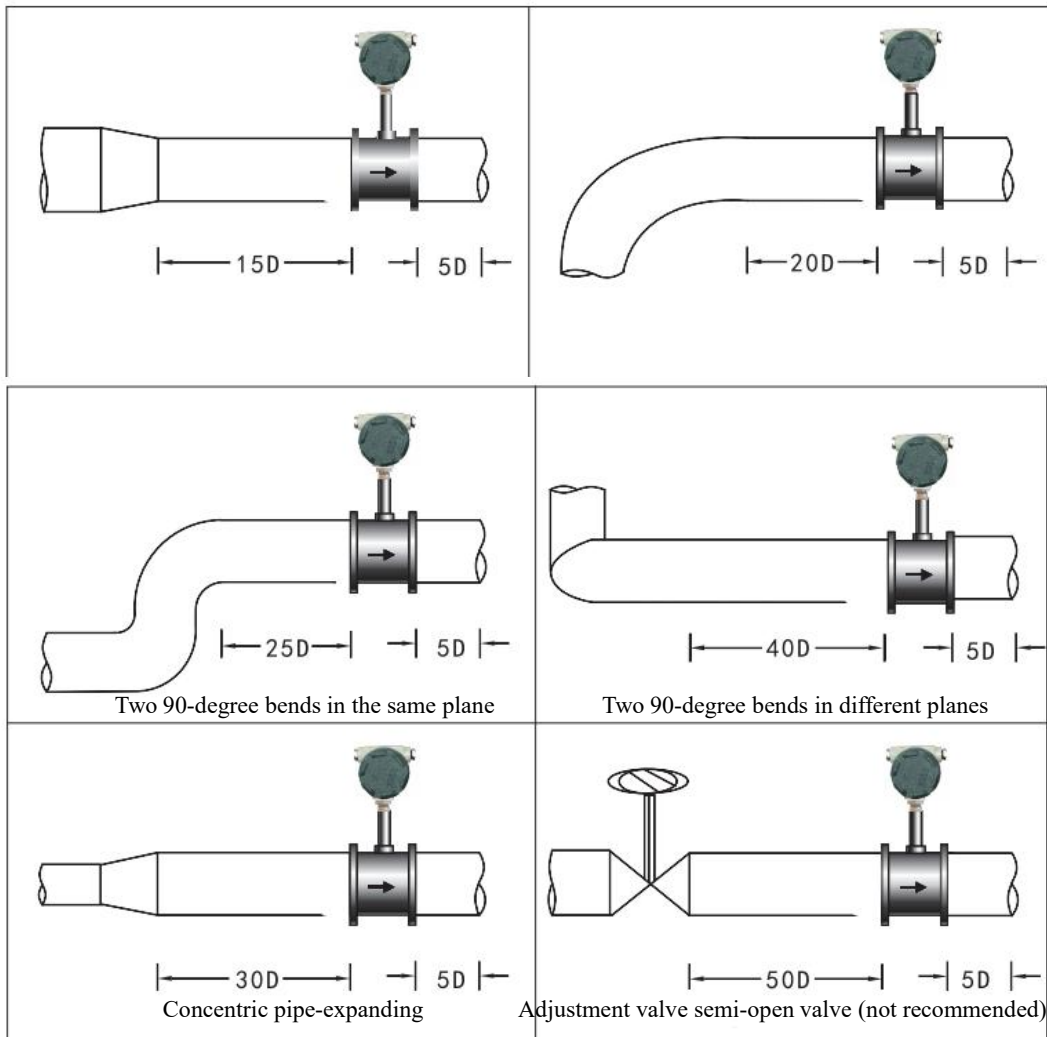

Figure 6: Reserved Straight Section Diagram
2.1.6 There shall be sufficient straight pipe sections on the upstream and downstream sides of the sensor. Please install them as required in Table 9 and Figure 6. (The adjustment valve shall be installed downstream of the sensor as far as possible).